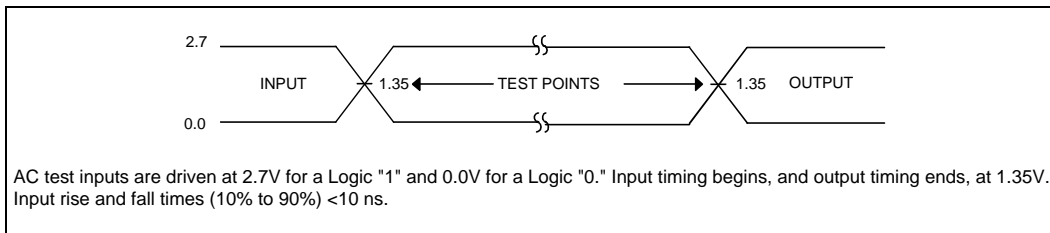

Figure 14. Transient Input/Output Reference Waveform for VCC = 2.7V–3.6V
5. See Figures 14 through 16 for testing characteristics.